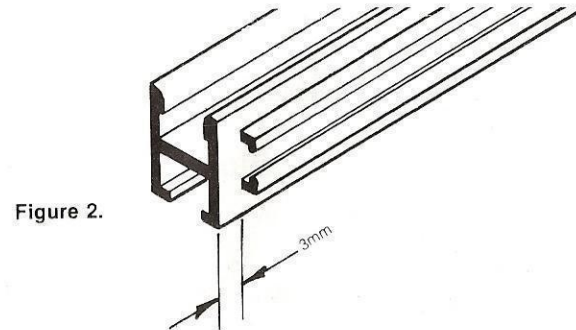

Figure 2.
d) Now notch both ends of each Section E by cutting or filing out 3mm from the side groove exactly as shown in Figure 2.